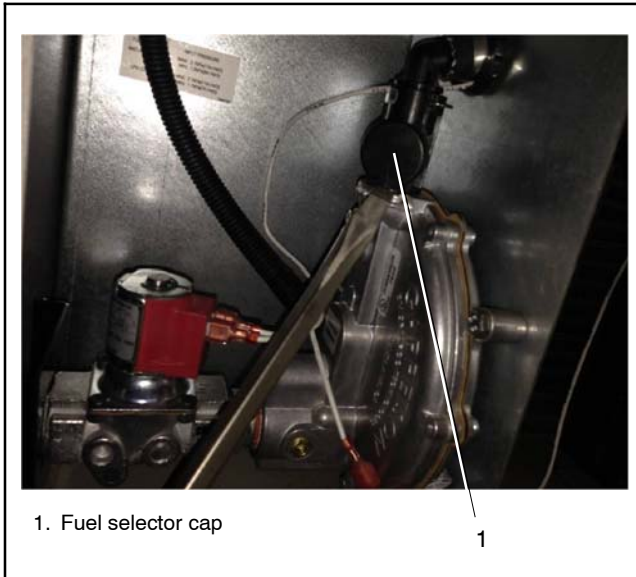

Figure 5-30 Cap Removal
- Remove the cap from the fuel selector valve. See Figure 5-30. Insert a flat head screwdriver under the lip of the cap and push it upwards. Keep the cap close by as it is needed to switch fuels in the next step.